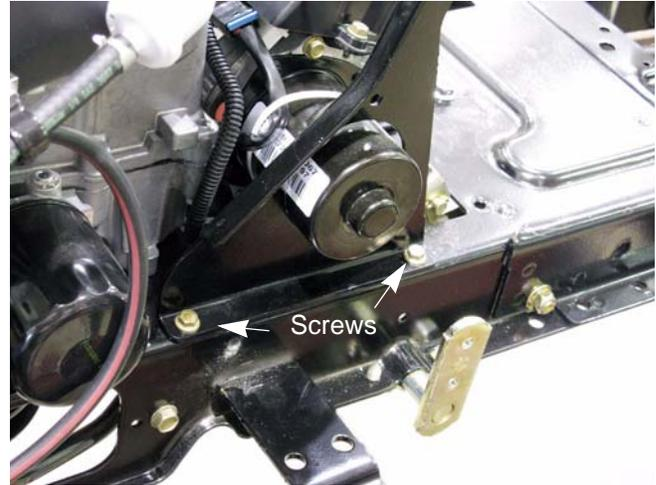

Figure 3B.18
8. Remove the two screws securing the left dash support to the frame using a 3/8" wrench. See Figure 3B.18.